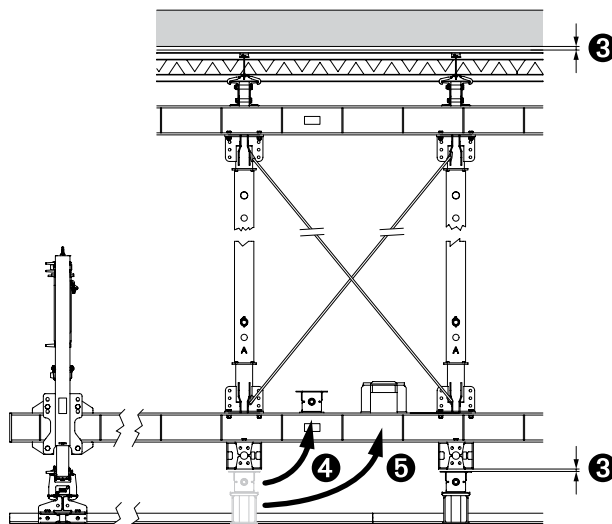

Fig. D2.03
7. Extend the Lifting and Lowering Unit and raise the Tunnel Formwork Carriage until the Wedge Lowering Devices are free. (Fig. D2.03)